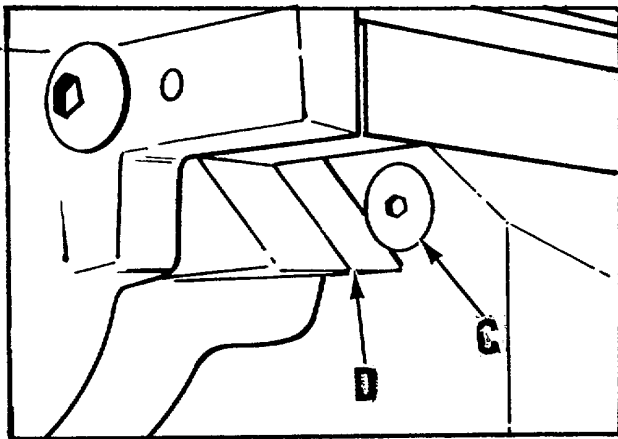

Fig. 18.
1. To tighten the gib, loosen the screw (A) on the small end of the tapered gib (B) Fig. 19. Turn in on screw (C) Fig. 18 on the large end of the tapered gib (D), until a
3. To loosen the gib, loosen the screw (C) on the large end of the tapered gib (D) Fig. 18. Turn in on screw (A) on the small end of tapered gib (B) Fig. 19, until a good, snug, sliding fit is obtained. When this is done, tighten screw (C) Fig. 18, recheck and make minor adjustment if necessary.